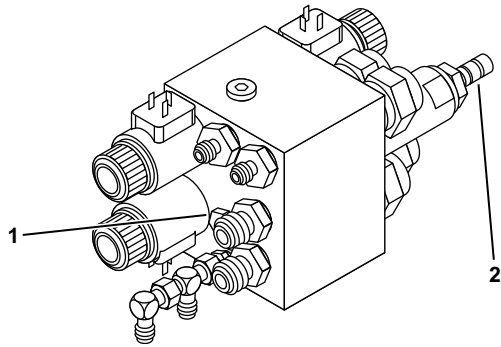

Figure 44 Gate Relief Valve
1) Install 2000 psi gage in “G” port of gate cylinder manifold located just behind conveyor manifold on hydraulic reservoir (Fig 44 Ref 1). This port is SAE 04 MB and requires a 9/16 wrench to remove the plug.
3) To adjust pressure, use 9/16" box wrench to loosen jam nut on set screw located on the gate manifold on top of the reservoir (Fig 44 Ref 2). If pressure is low, turn set screw clockwise. If pressure is high, turn set screw counterclockwise.